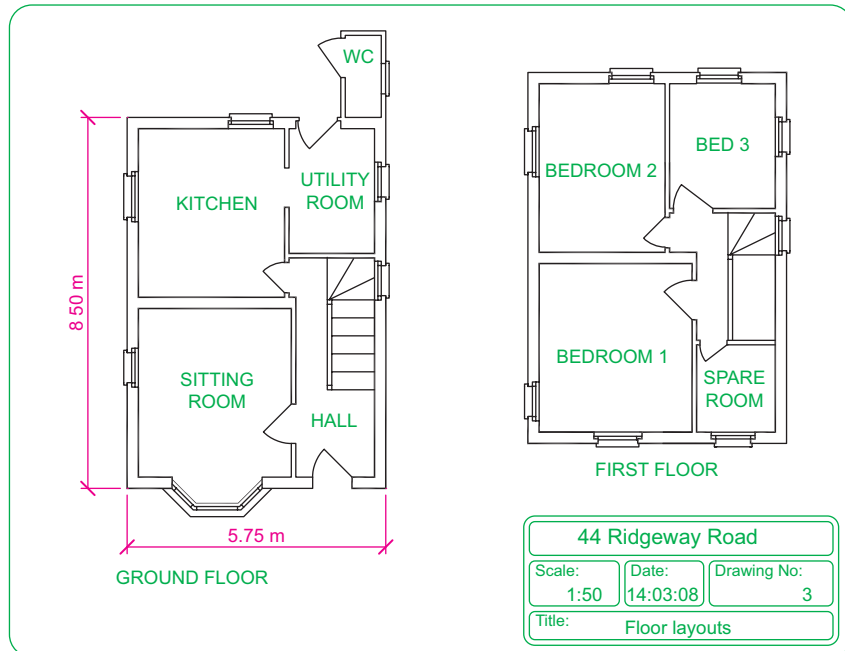

Fig. 16.3 Floor layouts drawing of the original house
3. Floor layouts of the original house, drawn to a scale of **1:50** (Fig. 16.3).